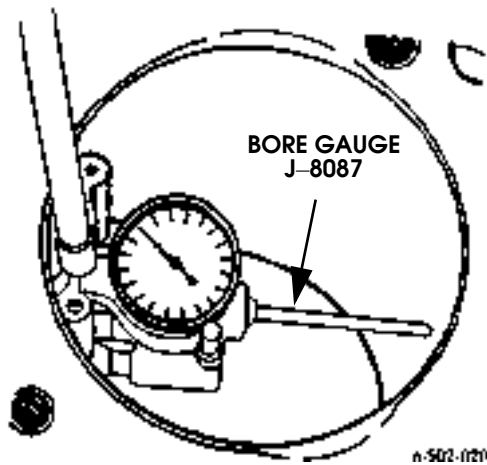

Figure 2-106: Measuring Cylinder Taper and Wear with Bore Gauge
Measure degree of wear and taper in each cylinder bore with bore gauge J-8087 (Figure 2-106).
- Center the bore gauge in the cylinder and zero the dial indicator (Figure 2-106).